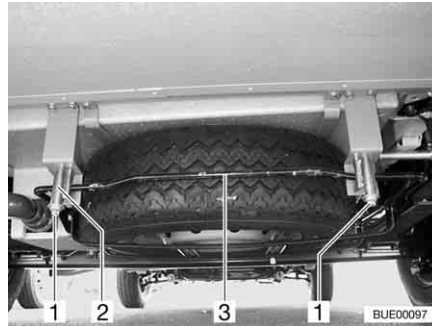

Fig. 256 Spare wheel support (basket)
- Loosen the nuts (Fig. 256,1) on the right and left rear hooks (Fig. 256,2) of the spare wheel support.
- Pull the bar (Fig. 256,3) slightly upwards. At the same time, pull down the hooks and unhook the bar.